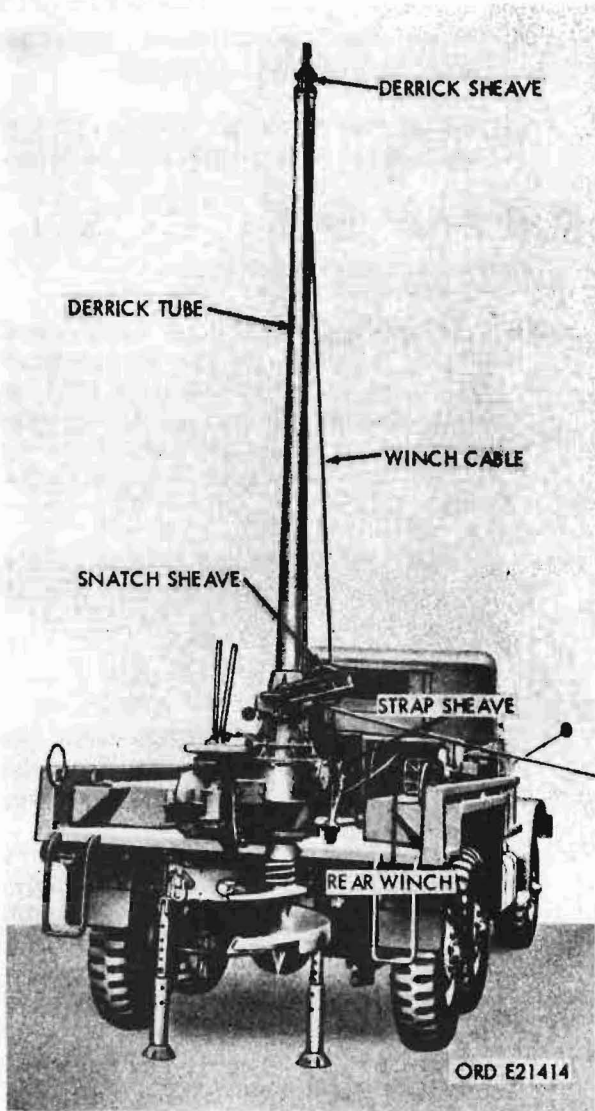

Figure 168. Winch cable hookup for side dragging
(2) Safety precautions.
- (f) Use the snatch sheave (fig. 168) for "snaking" the poles at a distance of 20 feet or more from the derrick.
(3) Erecting derrick tube.
- (a) Unreel the winch drum cable by hand (b(5) above) and pass the cable through the strap sheave (fig. 168) with the cable under the sheave.
(5) "Snaking" or dragging pole (fig. 168). This operation can be performed with the derrick tube either raised or lowered.
- (b) Prepare the vehicle for the rear winch operation (b(3) above).
- (c) Operate the rear winch slowly to take up the winch cable (b(4) above).
- (f) Operate the winch to take up cable, and secure the winch from operation (b(7) above).
(6) Setting poles.
- (a) Position the truck, and erect the derrick tube ((3) above) so that the earth auger clears the hole and the derrick sheave is properly placed above the hole.
- (b) Prepare the vehicle for rear winch operation (b(3) above).